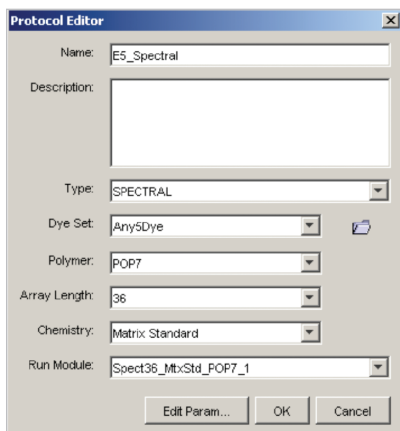

Figure 4. Create a new spectral protocol in Protocol Manager, using the Spect36_MtxStd_POP7_1 setting.
2. Create protocols for the spectral and regular run types with the Any5Dye dye set (Figure 4).
2. From the Instrument Protocols area, select New. The Protocol Editor window should appear (Figure 4).